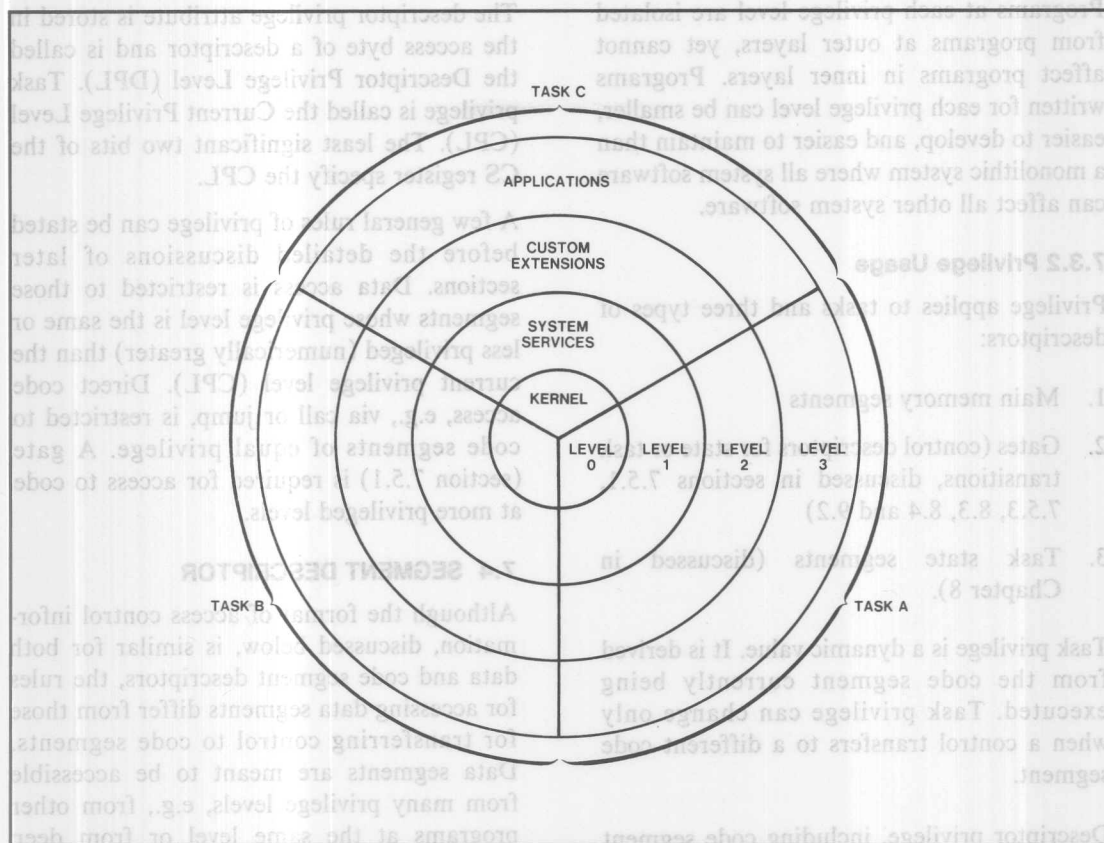

Figure 7-6. Code and Data Segments Assigned to a Privilege Level
Privilege on the iAPX 286 is hierarchical. Operating system code and data segments placed at the most privileged level (0) cannot be accessed directly by programs at other privilege levels. Programs at privilege level 0 may access data at all other levels. Programs at privilege levels 1-3 may only access data at the same or less trusted (numerically greater) privilege levels. Figure 7-6 illustrates the privilege level protection of code or data within tasks.
In figure 7-6, programs can access data at the same or outer level, but not at inner levels. Code and data segments placed at level 1 cannot be accessed by programs executing at levels 2 or 3. Programs at privilege level 0 can access data at level 1 in the course of providing service to that level. iAPX 286 provides mechanisms for inter-level transfer of control when needed (see section 7.5).
Two extra privilege levels allow development of more reliable, and flexible system software. This is achieved by dividing the system into small, independent units. Figure 7-6 shows an example of the usage of different protection levels. Here, the most privileged level is called